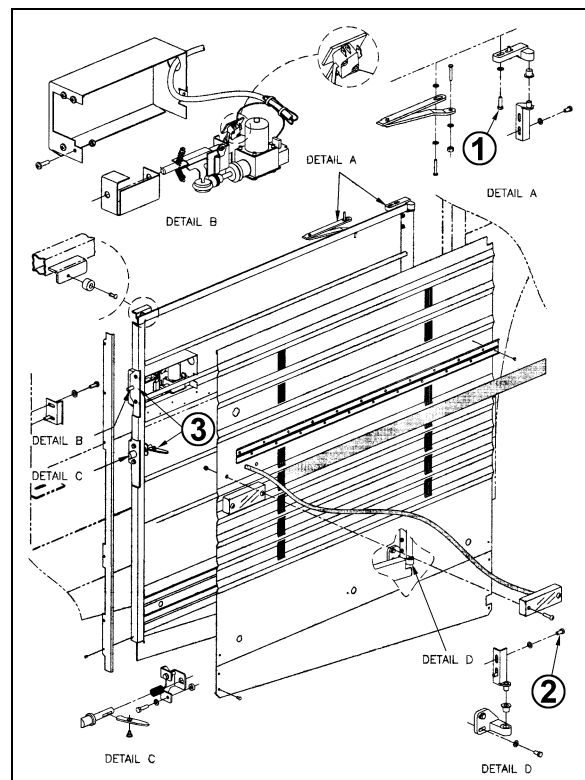

FIGURE 100: ENGINE COMPARTMENT R.H. SIDE DOOR¹⁸⁶³⁵
1. Loosen the bolts, (1, Fig. 100) holding the hinge to the vehicle structure to shift the door "IN or OUT" and "UP or DOWN".
2. Loosening the bolts (2, Fig. 100) allows the door to be shifted "LEFT or RIGHT" and "UP or DOWN".
To adjust the latch mechanism (3, Fig. 100) and the striker pin: